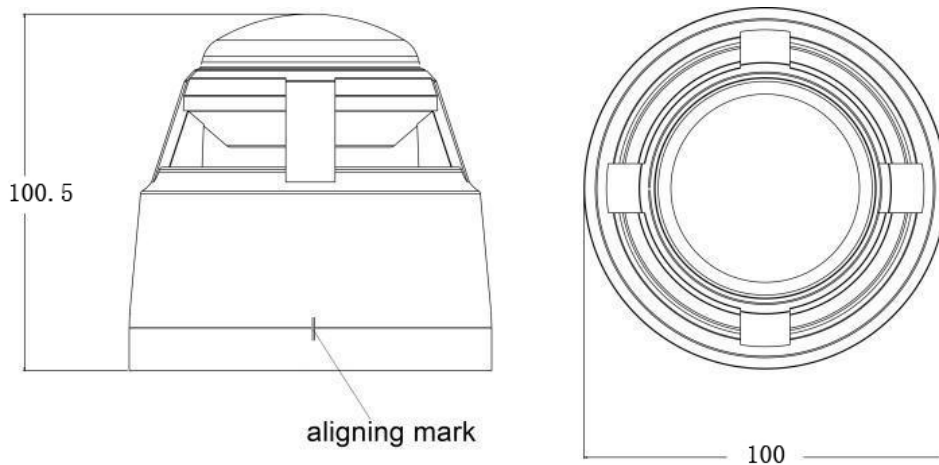

Fig.1
10)Dimension: $\phi 100\text{mm}\times 100.5\text{mm}$ (with base) , See Fig1.